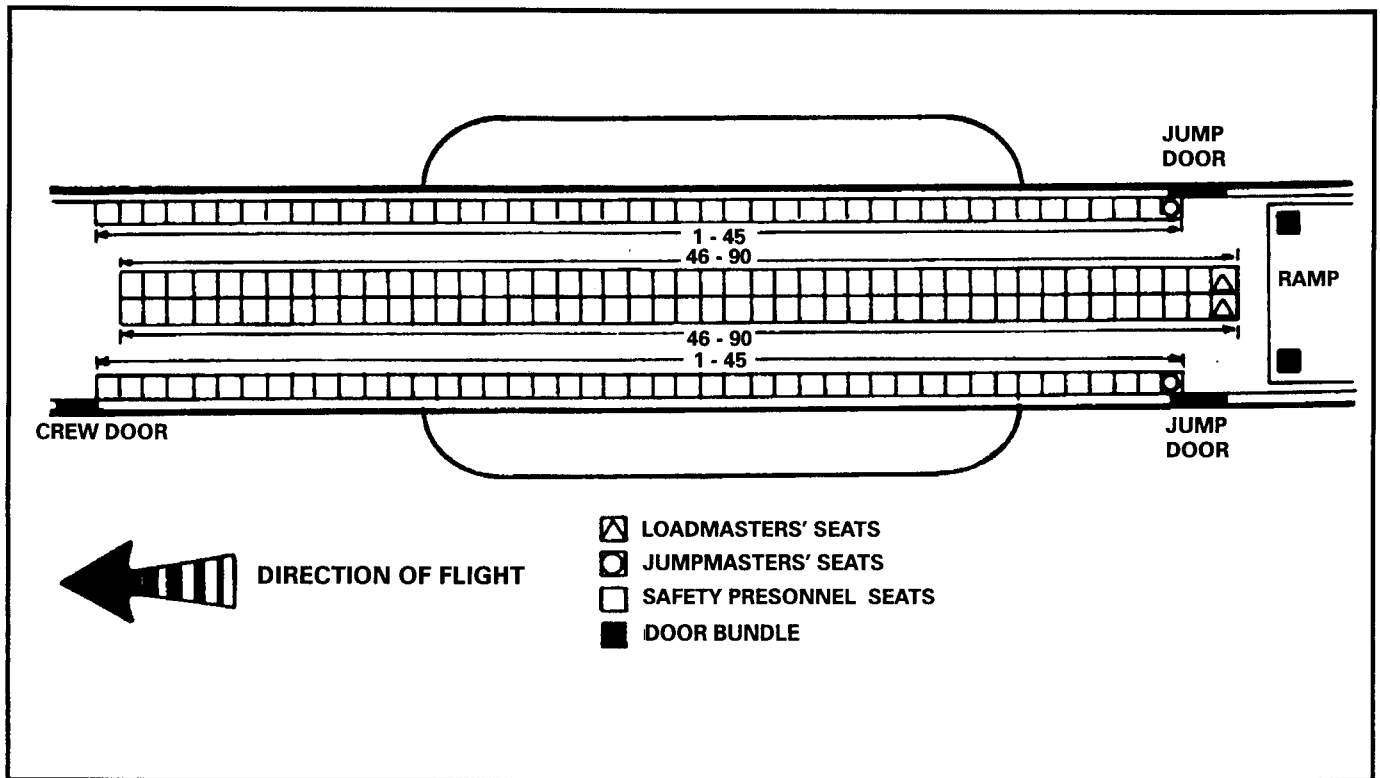

Figure 16-11. C-141B configured for combat load
In this configuration, the C-141B seats 182 personnel: 180 parachutists and 2 loadmasters (Figure 16-11). Personnel are seated on the side-facing seats on 20-inch centers. Parachutists (180) are seated in two sticks of 90 each on the left and right sides. If 45 parachutists cannot be seated on the outboard seats, the overflow may be seated inboard aft on available center seats. The JM must ensure that only 45 parachutists hookup to the outboard/inboard anchor cables.